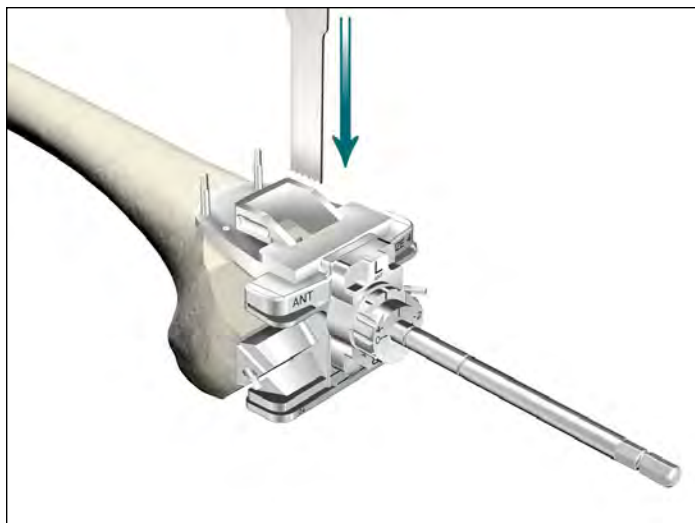

Figure 28
- Using a narrow 15mm-wide, 0.050" thick oscillating saw blade, resect for the M/L walls and score the distal wall of the femoral box through the Revision Box Cutting Guide (Anterior/Posterior) (**Figure 28**).